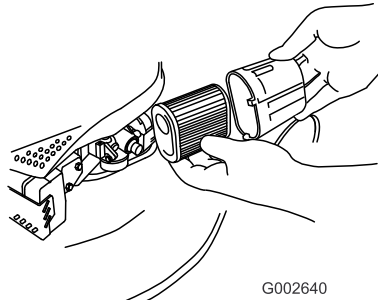

Figure 37
2. Rotate the air filter cover to remove it (Figure 37).